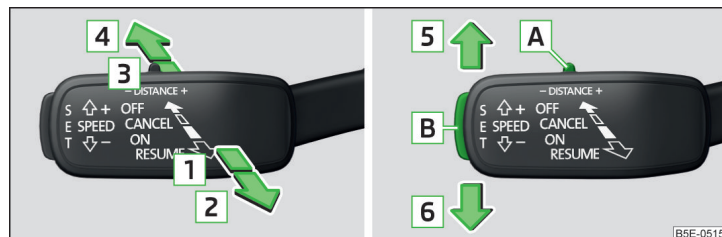

Fig. 142 Operating lever
Overview of ACC functions operated with the lever » Fig. 142
- Press the button **SET** » Fig. 142 on page 111 press.
- Or Set the lever into the sprung position **RESUME** » Fig. 142 on page 111 set.
- Set the lever into the sprung position **CANCEL** » Fig. 142 on page 111 set.
The desired speed can be set or changed using the control lever » Fig. 142 on page 111.
The proximity to the vehicle ahead can be set with the lever» Fig. 142 on page 111 or in the Infotainment» *Owner's Manual Infotainment*.
➤ Set the switch **DISTANCE** Adjust in the spring-tensioned position – or + » Fig. 142 on page 111.
Acceleration can be cancelled at any time by touch on the brake pedal or pressing the button **CANCEL** on the lever » Fig. 142 on page 111.